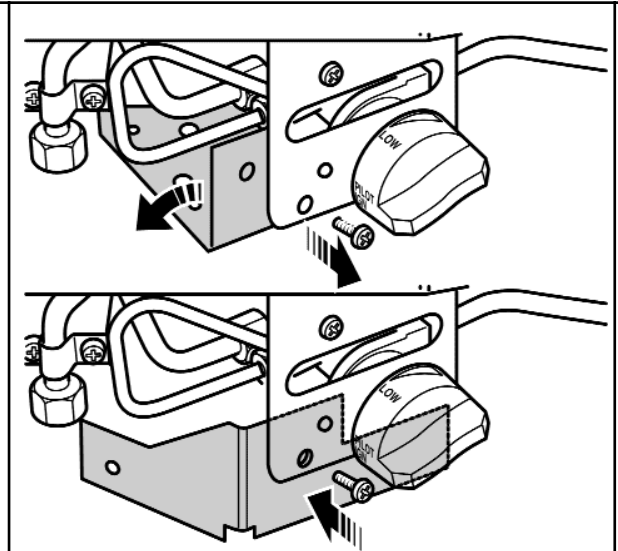

Figure 13. Replacing the burner bracket.
- There is a bracket on the front support leg of the model 739 gas fire which can be removed and disposed of (See figure 13).
- Supplied with the convector box is a replacement bracket. Locate this using the screw removed previously (See figure 13).
- There is a bracket on the front support leg of the model 939 gas fire which can be removed and disposed of (See figure 13).